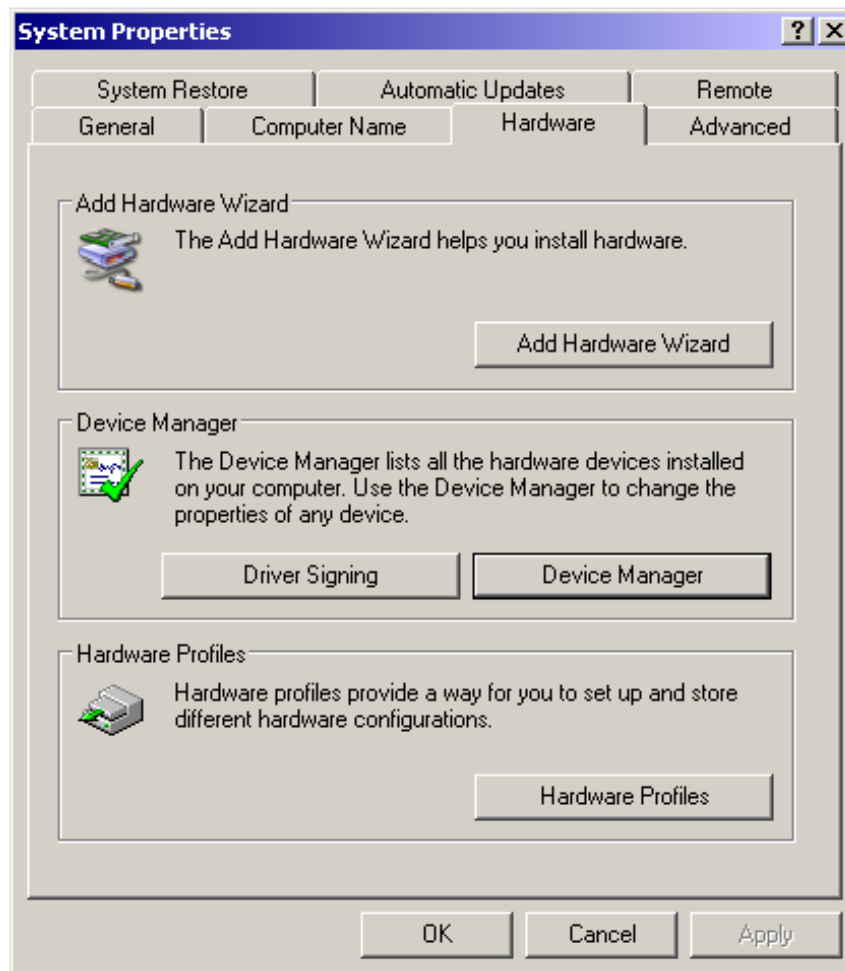

FIGURE 185. System Properties
3. Select the Add Hardware Wizard button as shown in Figure 185.